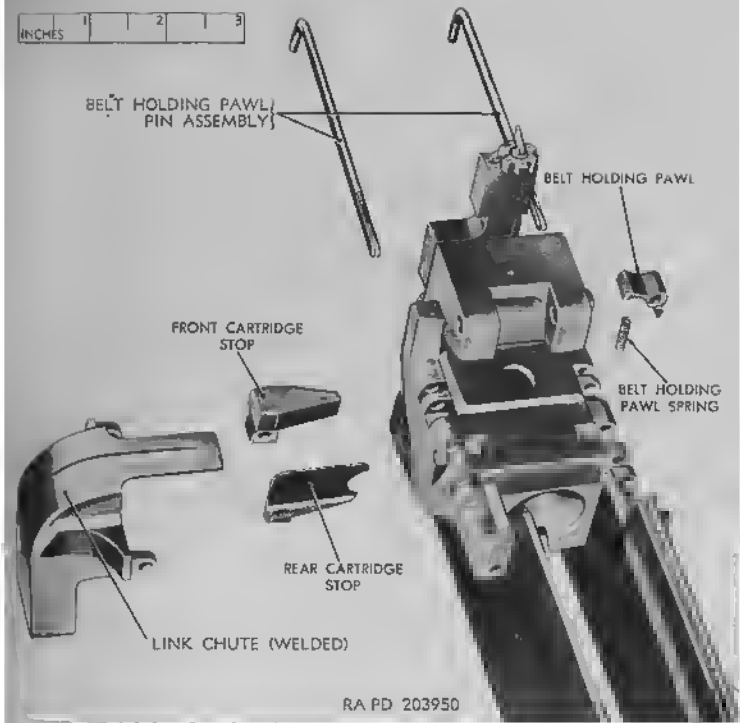

Figure 17. Casing group.
- (1) Withdraw the two belt holding pawl pin assemblies (fig. 17).
- (2) Reposition the front and rear cartridge stops, link chute,